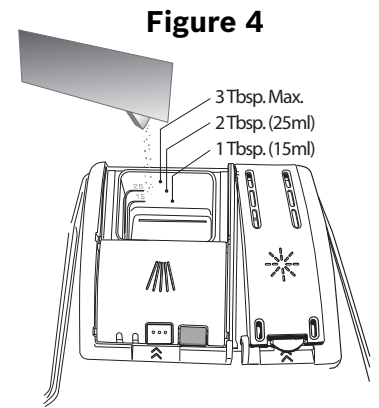

Figure 5
- Place finger as shown in **Figure 5**.